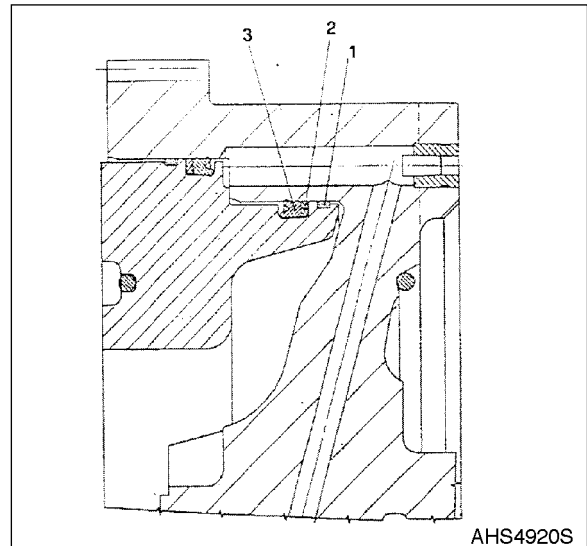

Figure 116
- Figure 116, shows the installation position of the backup sealing elements.
NOTE: Pay attention to the installation position, see Figure 116.